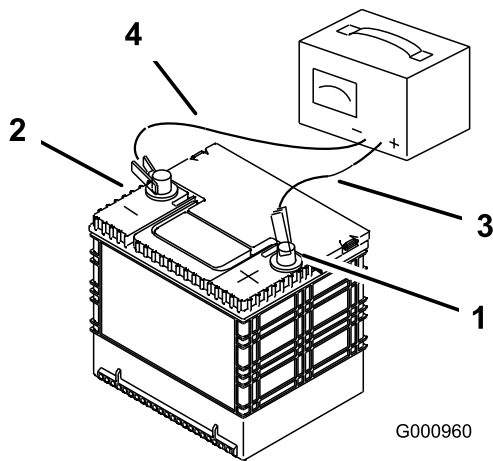

Figure 59
2. When the battery is fully charged, unplug the charger from the electrical outlet, then disconnect the charger leads from the battery posts (Figure 59).